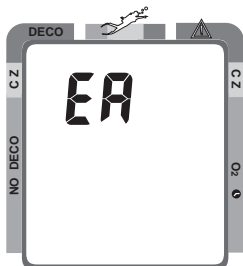

Fig. 28 - EA Mode
- press Advance (Left) button to 'bypass EA Mode' (Fig. 28) and revert to Surface Mode